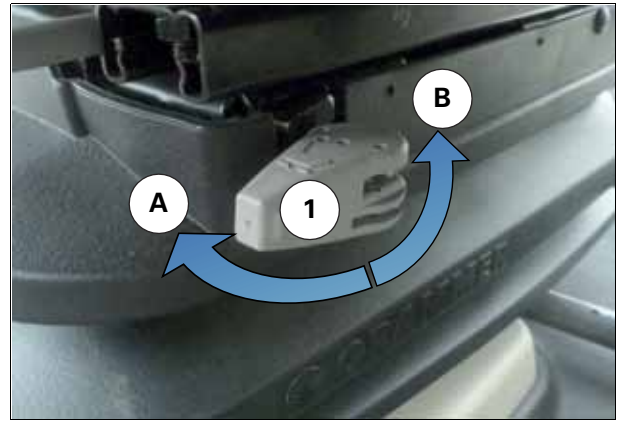

Fig. 21.
Under certain conditions of use (driving with a trailer), it is advisable to use the fore/aft shock absorber; the operator's seat is then better protected against jerks in the direction of travel. The fore/aft shock absorber can be activated and deactivated using the locking lever (1) *fig. 21*: